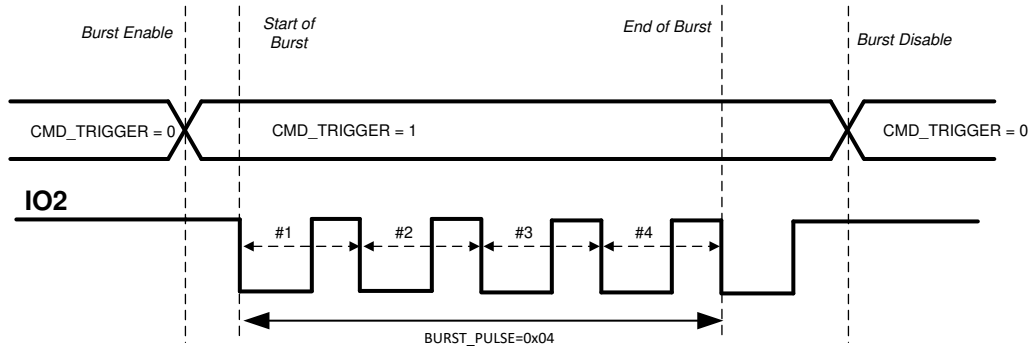

图 7-1. IO_MODE 0 Description
- **IO_MODE = 0:** In this mode, the external clock for the transducer is applied at the IO2 pin and the burst mode is enabled by setting the CMD_TRIGGER in the TOF_CONFIG register through SPI, as shown in 图 7-1. The device then expects a clock at IO2 pin to generate pulses on the OUTA/OUTB pins. The start of burst happens from the first falling edge of IO2. The number of pulses are counted by counting falling edge to next falling edge transitions on IO2 once the start of burst is triggered. The end of burst sequence is signaled when the number of pulses defined in BURST_PULSE are sent, or when the CMD_TRIGGER = 0 is set through SPI, whichever occurs earlier. TI recommends that IO2 is held high before burst enable to count the number of pulses correctly. After the start of burst, the state of OUTA and OUTB pins are determined by IO1 and IO2 pins. A transition of CMD_TRIGGER from high to low to high again is required to initiate a new burst sequence.